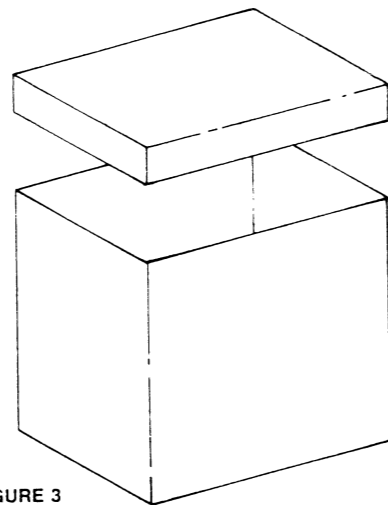

FIGURE 3
2. Remove the cardboard box (See Figure 3).